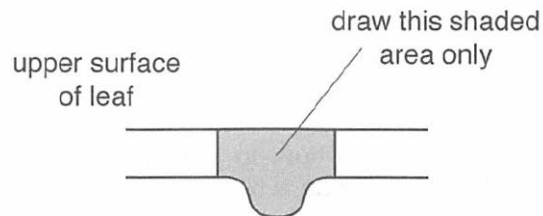

Fig. 3.1
- (a)** Use your microscope to observe the different tissues in the region of slide M1 shown by the shaded area in Fig. 3.1.
- (i)** Use the space provided to draw a large plan diagram of the part of the leaf on slide **M1** shown by the shaded area in Fig. 3.1.